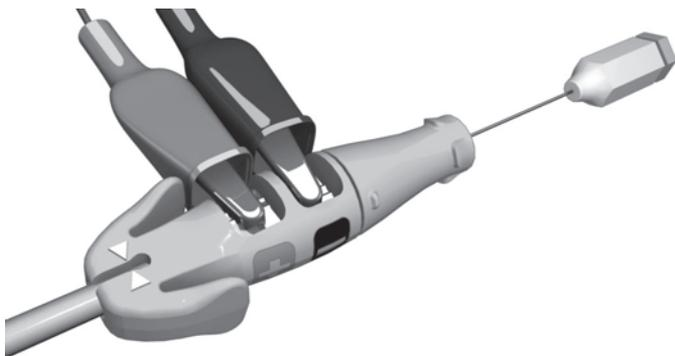

Figure 10. PSA clips attached to Connector Tool
- Attach the PSA cable alligator clips to the Connector Tool cathode (–) spring contact and anode spring contact (+). Use of the Connector Tool will protect the terminal pin from alligator clip damage and prevent bridging between terminal contacts. Fully engage the alligator clips on the cathode and anode spring contacts to avoid inaccurate baseline measurements (Figure 10 PSA clips attached to Connector Tool on page 27).